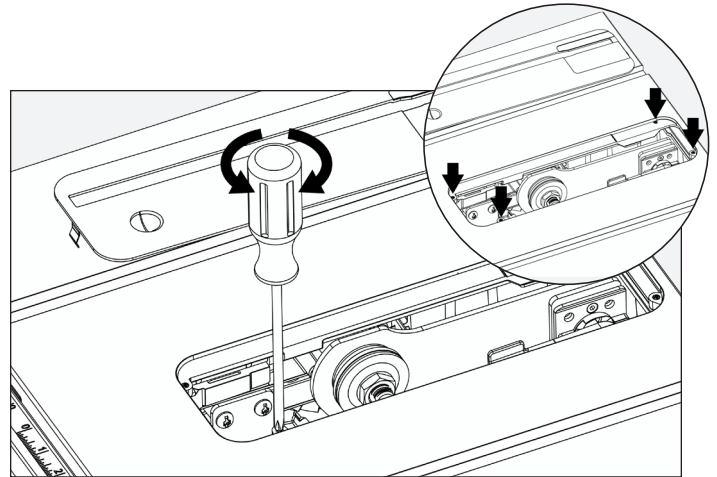

FIGURE 13
If adjustment is needed, remove the throat plate and adjust the (4) Phillips set screws (Fig. 13) up or down as needed. Replace throat plate and recheck. Repeat this process as needed until the throat plate is level.